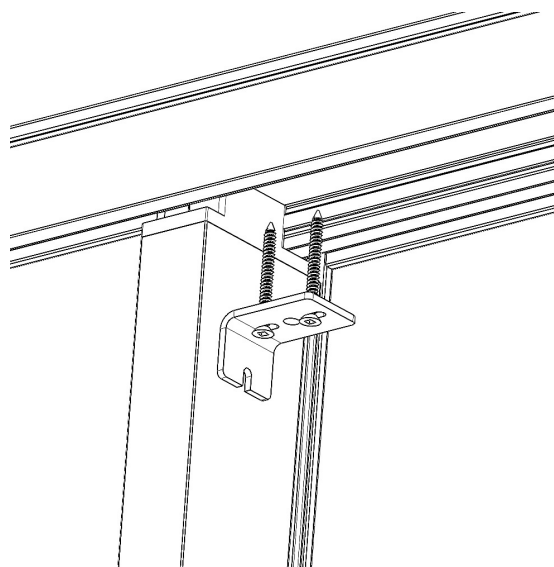

Figure 20
25. With the frame head parallel with the sill assembly, secure the fixed panel. Position the fixed clip into the head and using the clip pre-drilled holes as a guide, drill clearance holes for assembly screws. Anchor the fixed clip to the frame head with a pair of #10 x 2-1/2" PH Flat Head screws. (See Figure 20.)